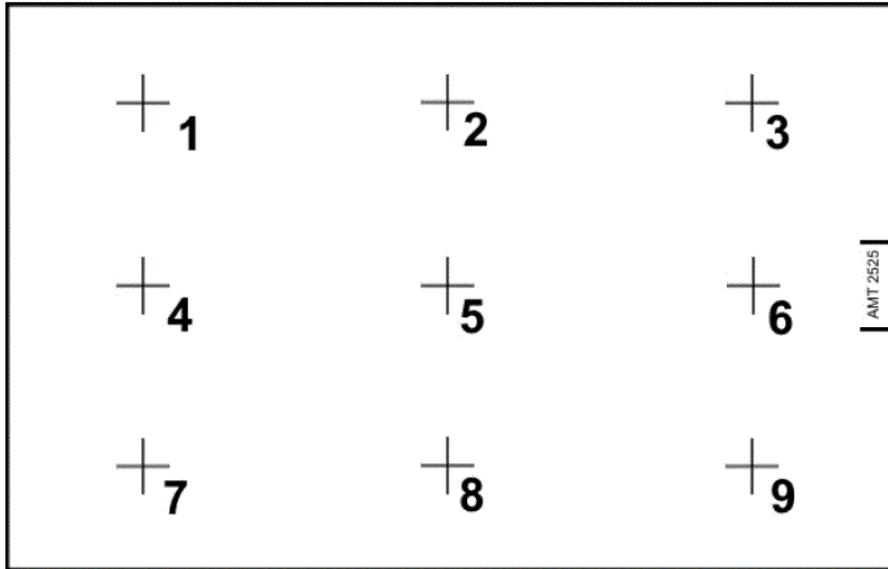
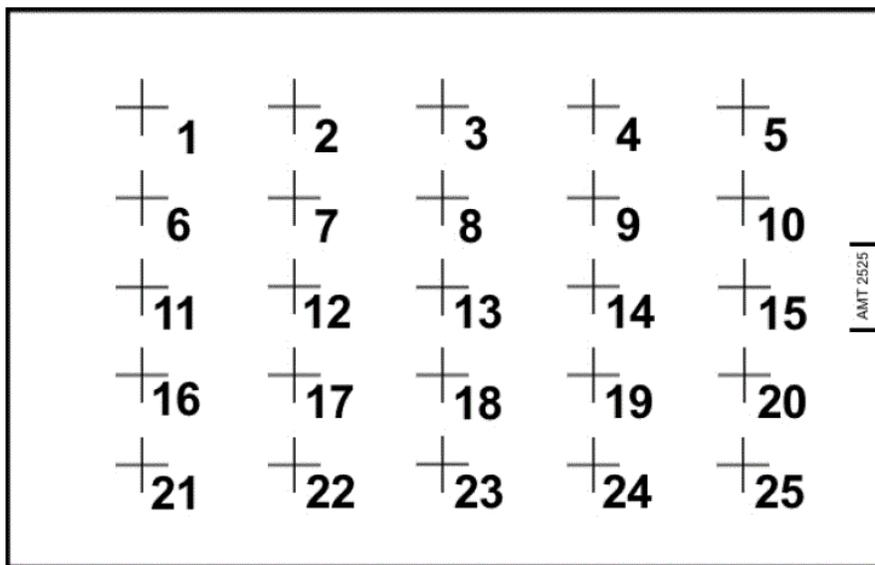

Figure 13: 9-point calibration template
Figure 14: 25 point calibration template
- If the sensor to be calibrated is not mounted on a display a paper calibration template can be made based on the templates provided in “AR1100 Calibration Templates for Development Kit DS41596A.pdf” document and in Figure 13 or Figure 14. Use an application such as PowerPoint to scale template image X and Y independently so when printed the template borders exactly align with the displays active area. After calibrating the sensor orientation will be so point #1 is in the upper left of the display.